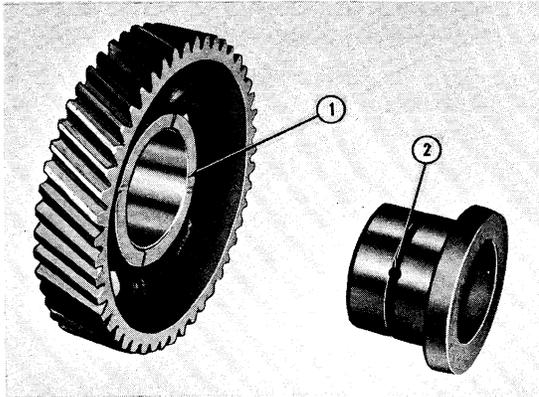

Figure 20
3. Inspect the camshaft drive gear bushing and adapter, Figure 20. Replace if worn.